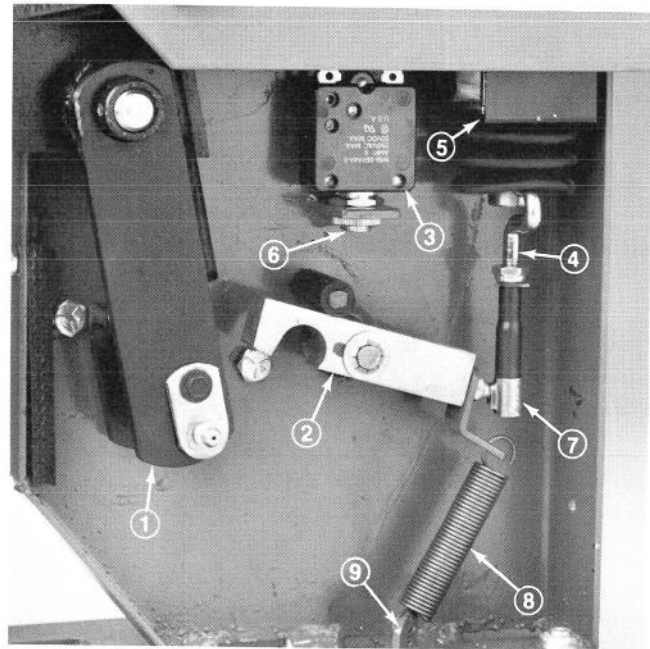

Figure 52
2. If required, reset circuit breaker button (Fig. 52).
- A. Unlock ball joint from latch ball (Fig. 52).
IMPORTANT: Make sure rod is positioned squarely as shown in Fig. 52.
Note: Make sure there is no tension on return spring when rod is in the disengaged (down) position. Loosen spring bracket capscrew and rotate bracket in or out until spring tension is relieved on spring. Tighten capscrew. Spring is to be hooked on latch from inside out as shown in Fig. 52.